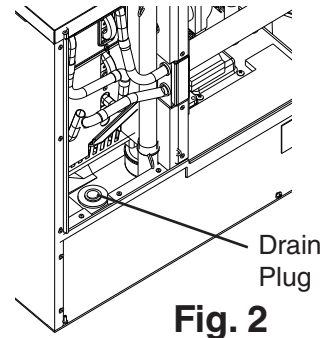

Fig. 2
- 3) Remove the front insulation panel. Next, remove the drain plug located in the bottom of the water tank. Allow the water tank to drain. See Fig. 2.